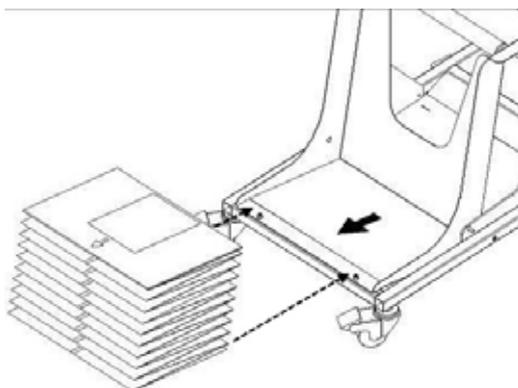

Figure 20 Place Paper Supply on System
- c. **Step 3:** Turn on the Auto Load function (Figure 20), the paper will automatically be pulled into the dispenser.